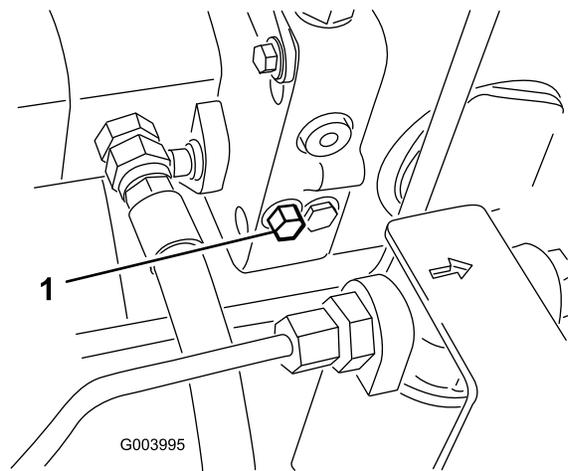

Figure 37
1. The bypass valve is located on the left side of the hydrostat (Figure 37). Rotate the bolt 1-1/2 turns to open and allow fluid to bypass internally.